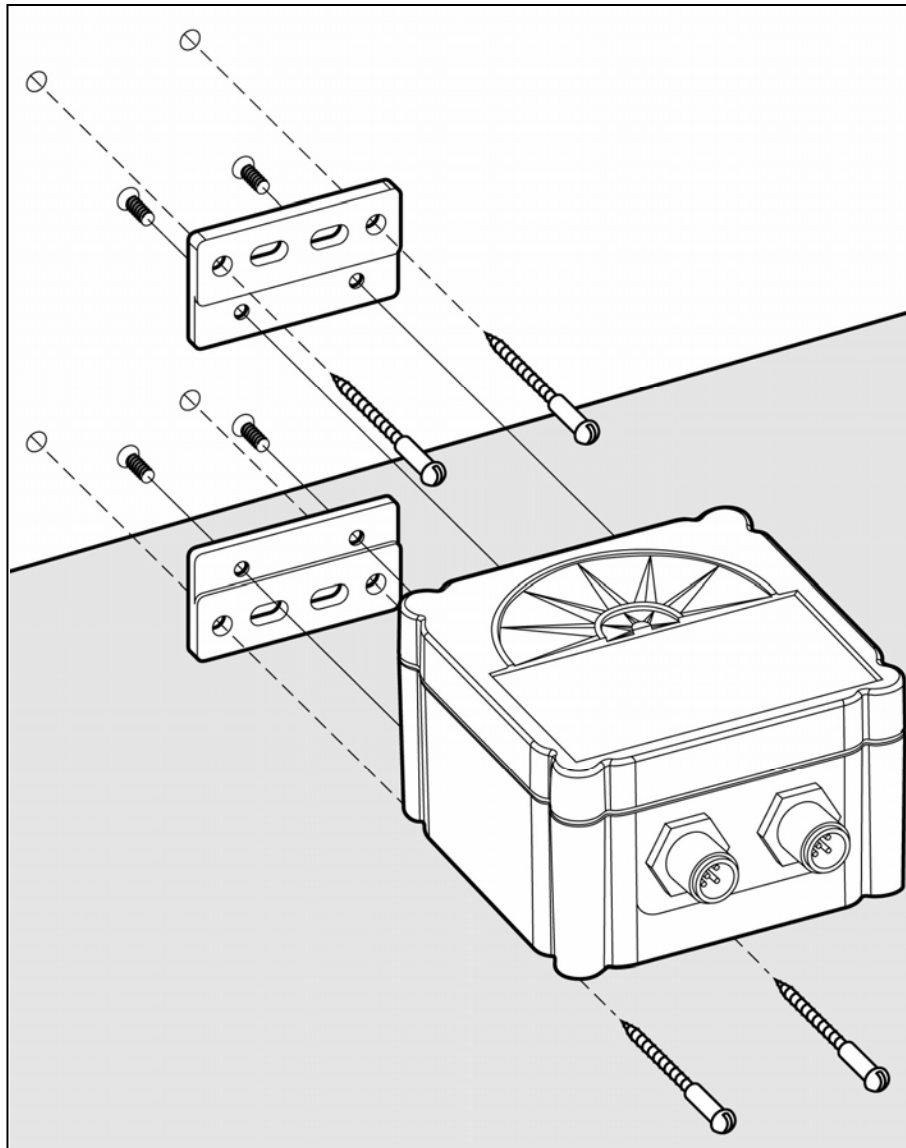

Figure 2 – Mounting the SSC200 to Vertical Surface
| Figure 2 – Mounting the SSC200 to Vertical Surface | 5 |
Mounting the SSC200 compass to a vertical surface requires that the provided mounting brackets be fastened to the side of the SSC200 using the provided brass flat head screws. Once the mounting brackets are securely fastened to the side of the SSC200, attach the SSC200 securely to the vessel using the included brass mounting screws or other non-ferrous fasteners as shown in Figure 2. Do not use threadlocking compounds containing methacrylate ester, such as Loctite Red (271), as they will cause stress cracking of the plastic enclosure.